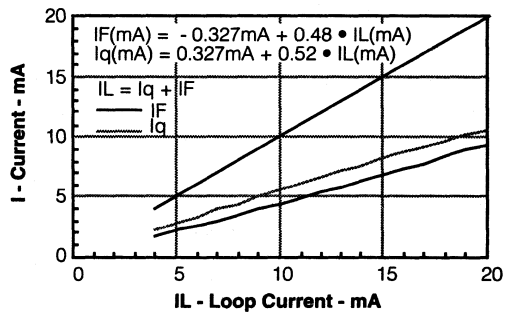

Figure 15. LED current shunt control
The current loop receiver circuit functions as follows. The loop current (IL) flows into the junction of U1's Vcc (R1 and R2). U1's supply current (IU1) is substantially smaller than the loop current and will be omitted in the analysis. The loop current is divided at the juncture of R1 and R2. The sum of the currents flowing in each leg is equal to the loop current. The individual currents (Iq and IF) are determined by the required LED current to generate the needed photocurrent (IP1) connected to the control network at U1. Figure 15 shows the Iq and IF relationships for the receiver.